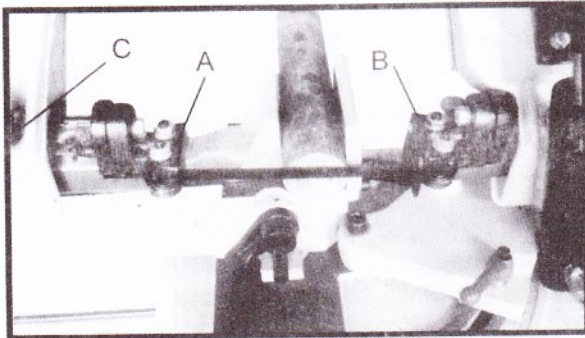

Fig. 11
2. The left and right blade guide brackets (A) and (B) Fig. 11, are adjustable by loosening the two lock knobs (C) and sliding the brackets to accommodate the width of the work piece. The guide brackets (A) and (B) should be set as close as possible to the work piece, without interfering or touching the work piece, or contacting the table. Once the adjustment is made, tighten the lock knobs (C).